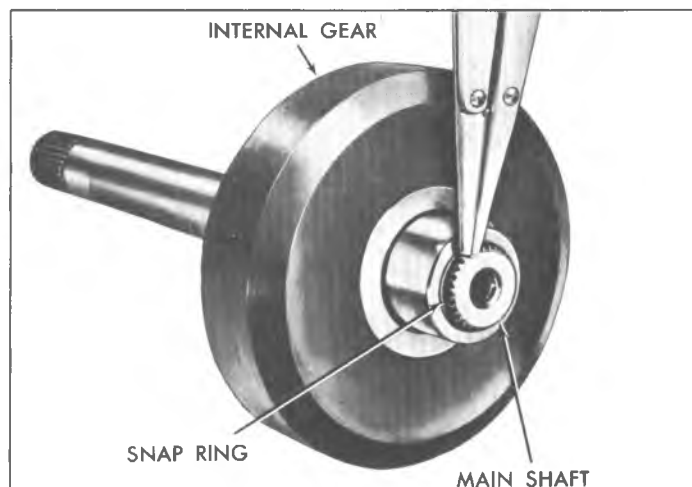

Fig. 116T--Installing Rear Internal Gear Snap Ring
2. Install rear internal gear retaining snap ring (fig. 116T).